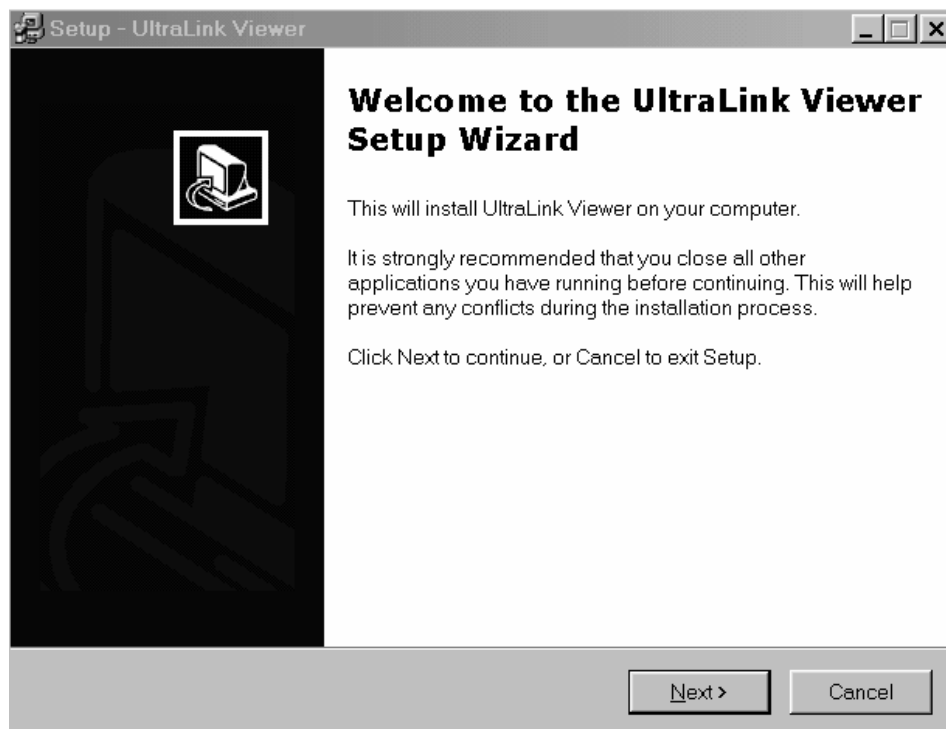

Figure 19. Viewer Set-up Wizard
1. Insert the Setup diskette (Diskette #1) and click Start, run, type in A:\Setup.exe in the "Open" input field, click OK. the setup wizard (Figure 19) will display.